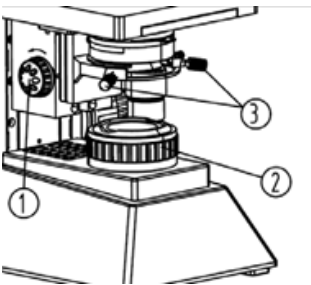
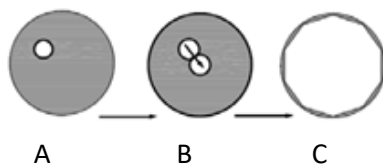

Fig.13 Centering the Condenser
Fig.14 Field Diaphragm Light spot
- 1) Move condenser all the way up by turning the condenser knob ① (Fig. 13). Bring the 10X objective into light path.
- 3) Rotate the field diaphragm ring ② counterclockwise to close the diaphragm. You should see the narrow light spot in the field of view (Fig. 14-A). Slowly move the condenser down until the light spot is in sharp focus.
- 5) Use the centering screws ③ (Fig.13) to bring the light spot to the center of the field of view if necessary. (Fig. 14-B)
- 6) Slowly open the field diaphragm. The light spot should remain centered in the field of view (Fig.14-C).
The field diaphragm (Koehler Iris) can restrict the light coming from the illuminator to the condenser. This will help to block the scattering of light and improve contrast. This tool is particularly helpful when viewing unstained specimens, or using Phase Contrast. Rotate ring ② (Fig.13) as necessary observing contrast change.